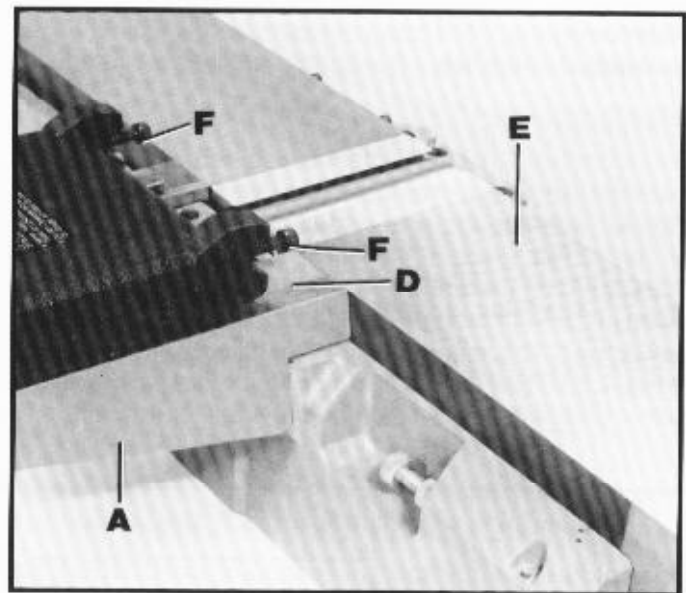

Fig. 6
**NOTE:** The top surface (D) Fig. 6, of the fence carriage (A) must be level with the top surface of the outfeed table (E), to enable the fence to slide easily.
2. Remove the two screws (F) Fig. 6.